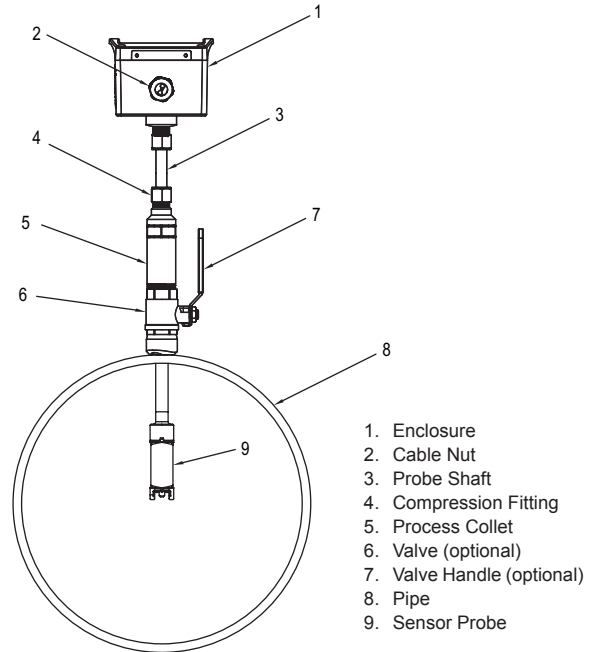

Figure 7
**Preparing the Unit for installation (Refer to Figure 7)**
1. Apply appropriate sealant to the process collet (5) threads such as application suitable sealant tape or paste.
2. Install the process collet (5) in valve (6) then tighten by hand.
3. Tighten the process collet (5) with a wrench using the hex geometry until snug.
4. Slowly open the valve handle (7) checking for leaks.